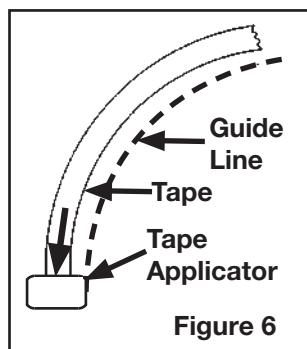

Figure 6
- Note:** For curved lines, apply the tape slowly around the arc of the curve (**Figure 6**).